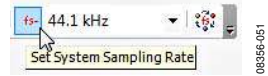
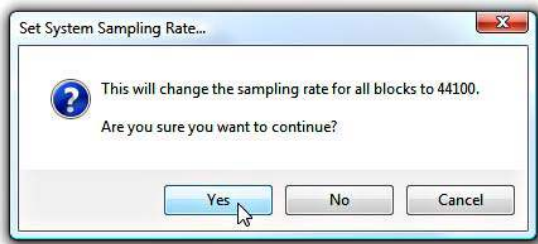

Figure 51. Set System Sampling Rate Button
Figure 52. Set System Sampling Rate... Confirmation Window
2. Click the **Set System Sampling Rate** button (see Figure 51) and click **Yes** when prompted to confirm (see Figure 52).